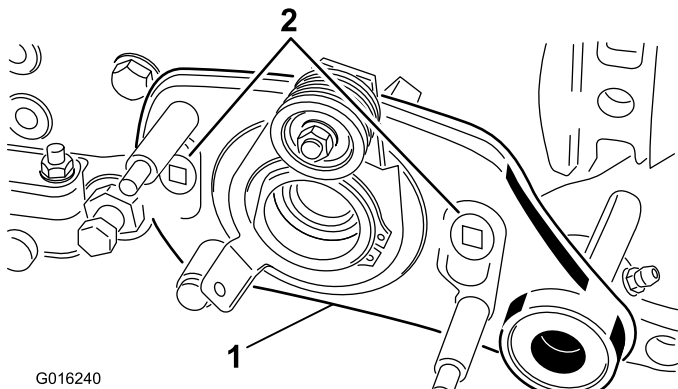

Figure 33
8. Remove the 2 shoulder bolts securing the groomer drive assembly to the side plate adapters (Figure 33).